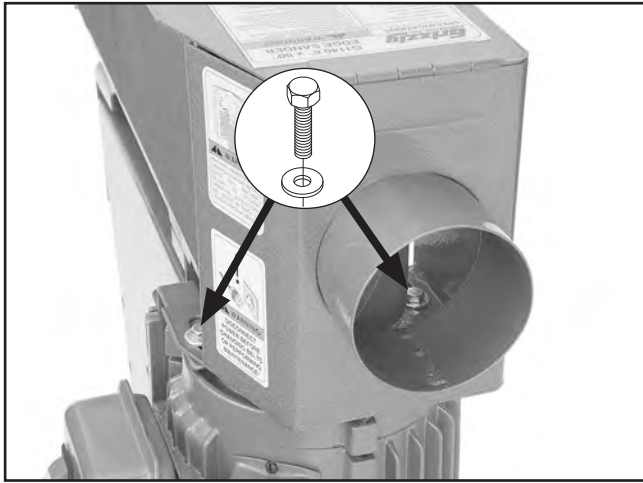

Figure 18. Example of dust port installed.
- Attach dust port to machine with (2) pre-installed hex bolts and washers shown in **Figure 18**. Finger-tighten for now.